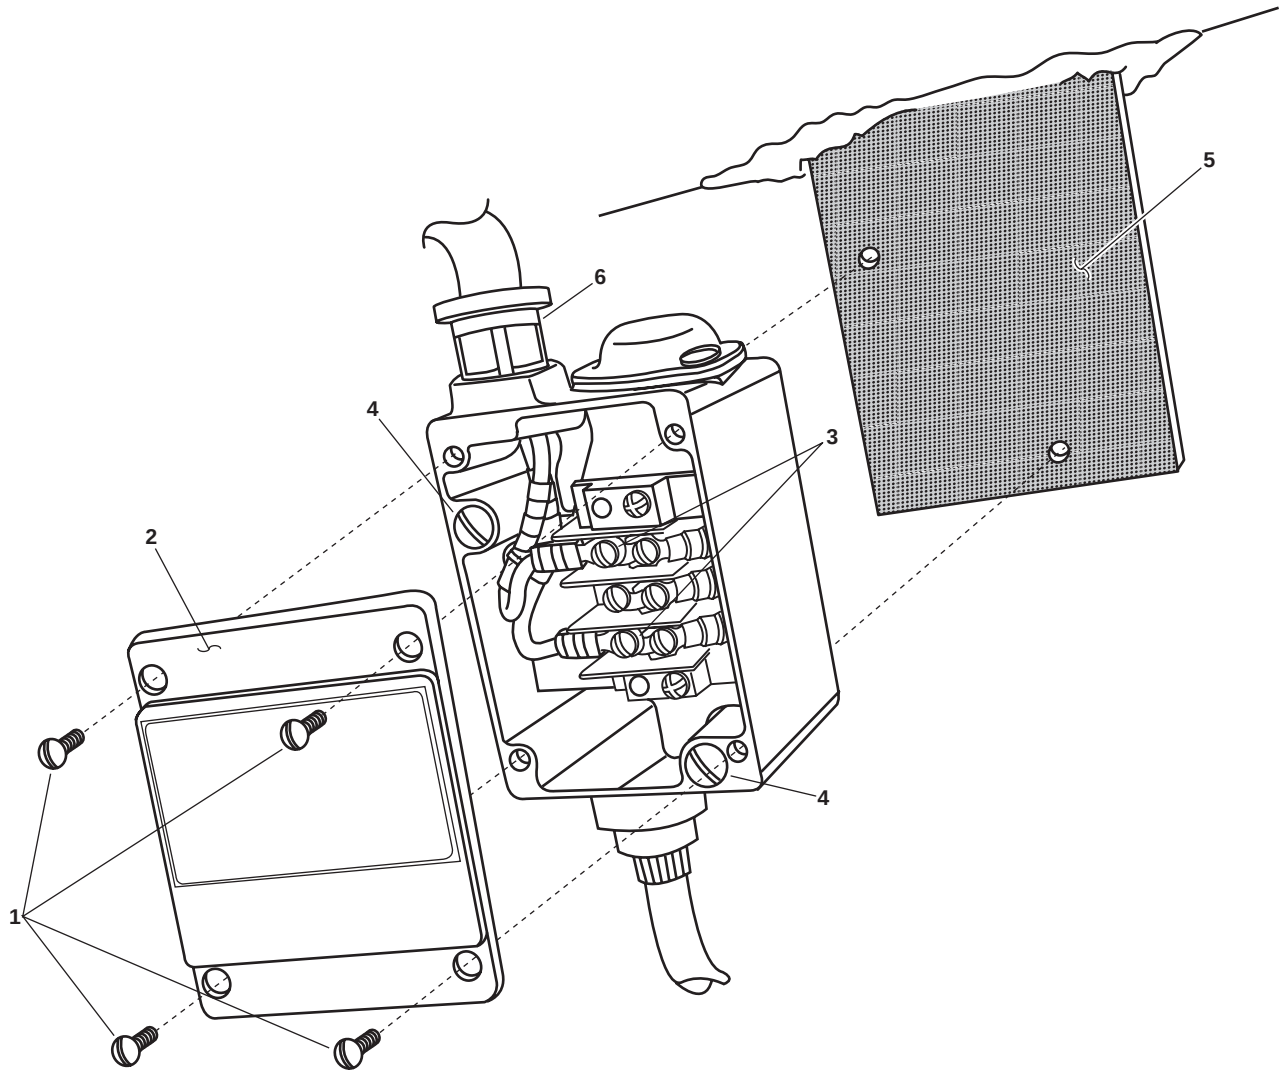

Figure 3. Thermostat Assembly
1. Remove the four screws (figure 3, item 1) that secure the thermostat cover (figure 3, item 2). Remove the thermostat cover.
2. Use a multimeter to check for voltage at the thermostat terminals (figure 3, item 3). If voltage is present, ensure that the proper circuit breaker is set to OFF, locked out, and tagged out (FM 55-502). If no voltage is present, continue with the procedure.
3. Label and remove the wiring from the terminals (figure 3, item 3) of the thermostat.
4. Remove the two screws (figure 3, item 4) that secure the thermostat assembly to the mounting bracket (figure 3, item 5).
5. Remove the electrical conduit (figure 3, item 6) and wires (figure 3, item 3) from the thermostat assembly.
1. Install the wiring (figure 3, item 3) in the thermostat, securing it with the conduit retaining nut (figure 3, item 6).
2. Install the thermostat switch assembly on the mounting bracket (figure 3, item 5) and secure it with the two screws (figure 3, item 4).
3. Install the wiring to the terminals (figure 3, item 3) of the thermostat using the labels from Removal step 3 as a guide. Remove the labels.
4. Install the thermostat cover (figure 3, item 2), and secure it with the four screws (figure 3, item 1).